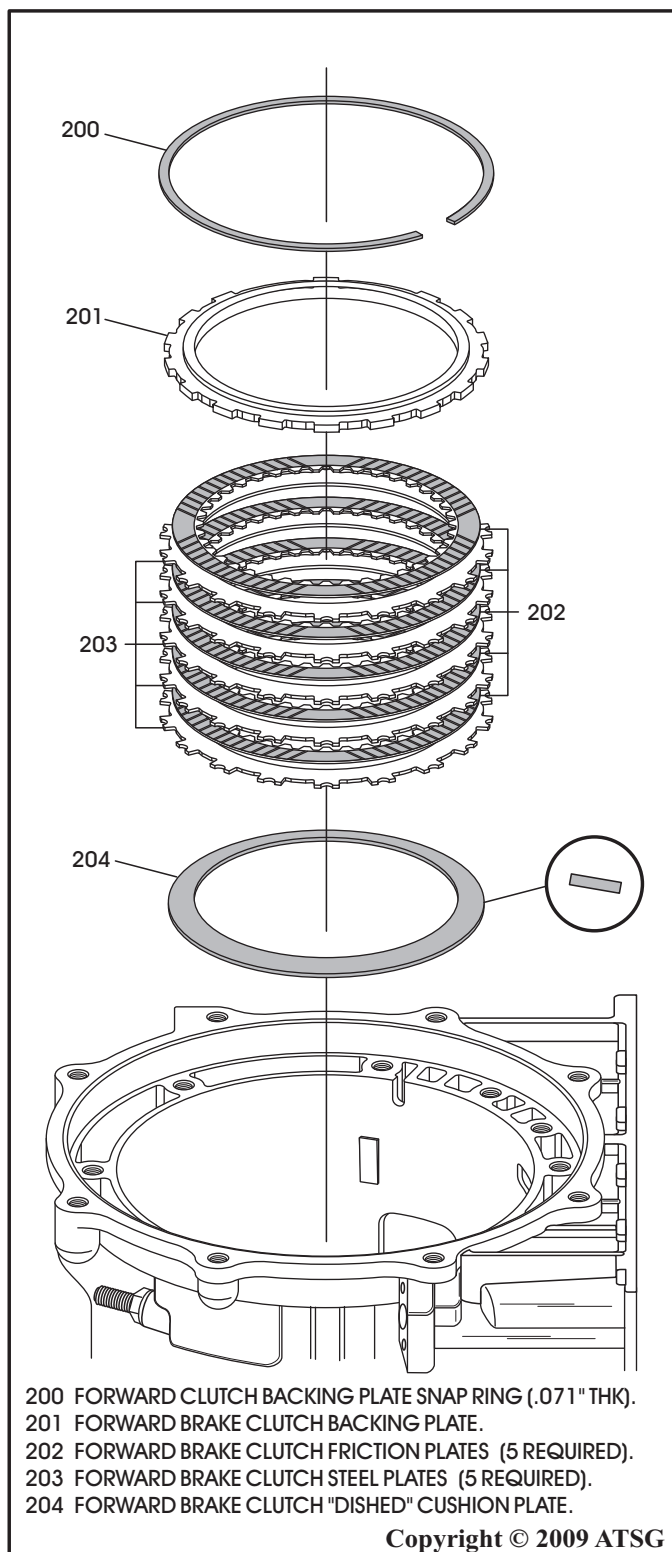

Figure 66
68. Remove the forward brake clutch snap ring and backing plate, as shown in Figure 66.
69. Remove the forward brake clutch plates and forward brake clutch "dished" plate, as shown in Figure 66.